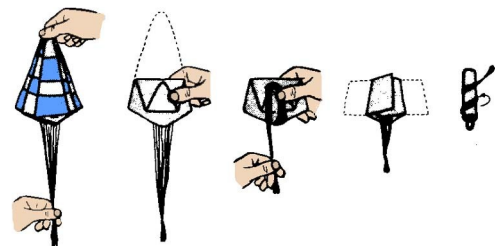

Figure 11
- **Step 27** Use the illustration in Fig. 11 to correctly fold the parachute prior to each flight. In cold climates, or during winter months, lightly dusting the parachute with fine talcum powder will help the chute open.